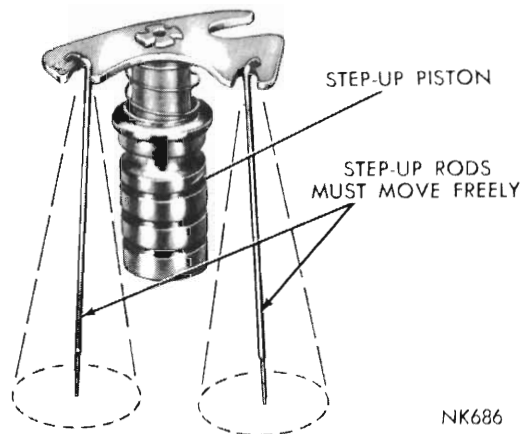

Fig. 8 - Step-up piston and 2 stage rods
(7) Before installing the step-up piston, be sure the step-up rods are able to move freely each side of the vertical position, as shown in (Fig. 8.) The step-up rods must be straight and smooth.